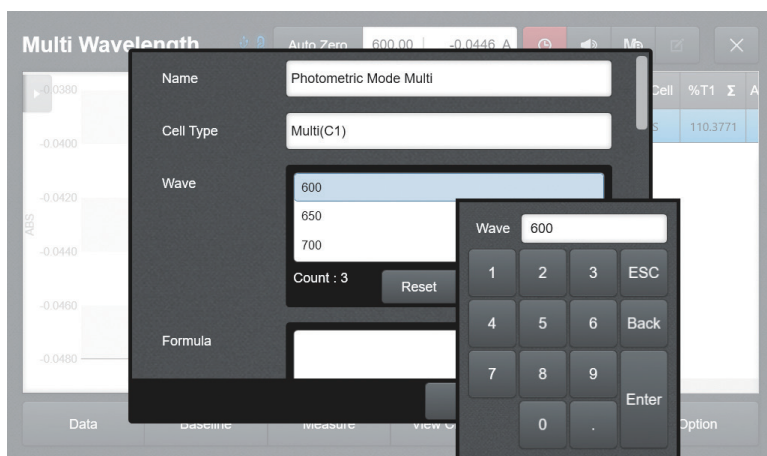

Fig. 3.8
1. Select the wavelength ① **Add** from the list on the settings screen.
2. [Fig. 3.8] Enter the wavelength to measure using the numeric keypad.